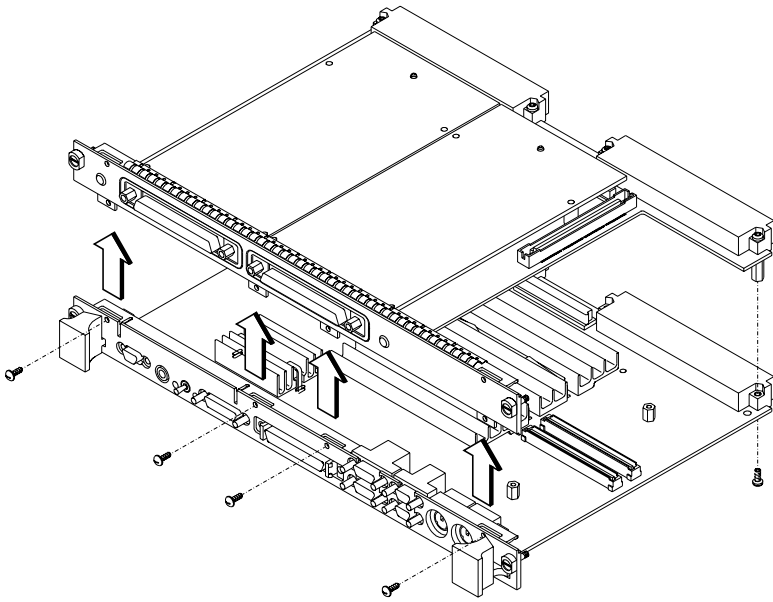

Figure 5-10 Removing the PMC Bridge Adapter
- 7 Remove the bridge adapter's four front panel screws, as shown in Figure 5-10.
- 8 Remove the bridge adapter's four VME connector screws, as shown in Figure 5-10.